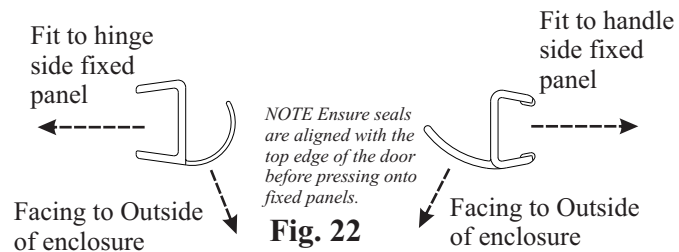

**Fig. 21**
**10** FINAL ADJUSTMENT CHECK, If the door and fixed panels are not aligned vertically (in to out), adjust the upper lateral adjustment screws in or out while watching to see which direction corrects the alignment. See Fig 21.